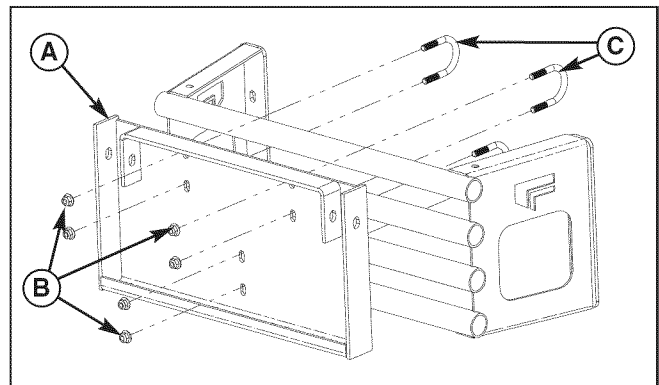

Figure 36. Install Collector Mount Plate
1. Install the collector mount plate (A, Figure 36) on to the bumper. Install two of the 3/8-16 U-bolts (C) over the top bumper tube and through the mounting plate and loosely secure with the 3/8-16 nylock flange nuts (B).
2. Install the remaining 3/8-16 U-bolt bolt (C) over the third tube down from the top of the bumper and loosely secure with the 3/8-16 nylock flange nuts (B).